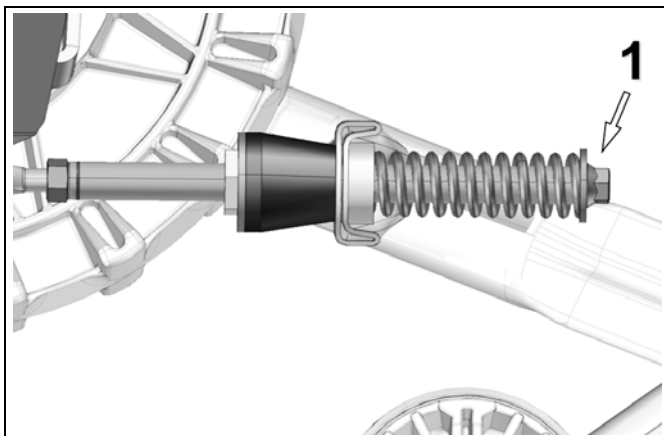

Figure 4
- Verify that spring assembly bolt is tightened to the recommended torque [40 N•m] (1) and that stabilizing arm components are installed in the correct order. See Figure 4.